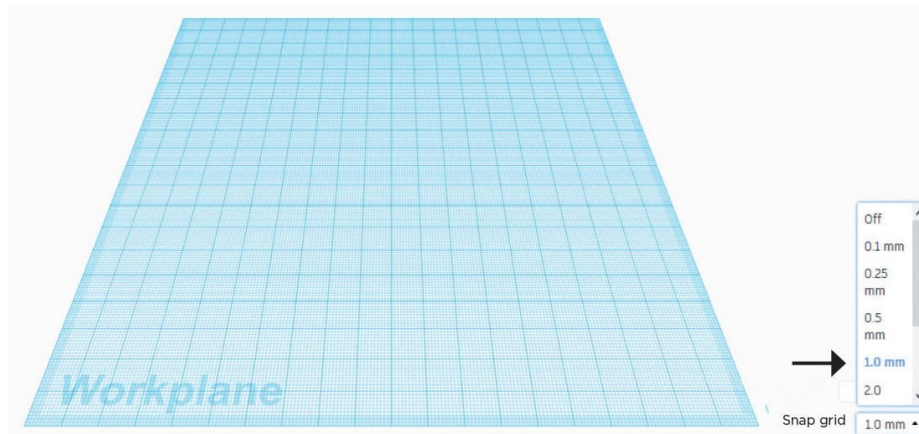

FIG. 4: The grid buttons control the workplane scale and dimension increments.
- The central part of the page holds the **Workplane**. This is the main staging area where designs are created and manipulated using tools from various other parts of the page. The workplane is marked with a grid to assist in accurately placing designs and shapes on it. The scale of the grid can be modified using the **Edit Grid** button on the bottom right of the workplane. The arrow in fig. 4 marks the **Snap Grid** menu, which allows for variation in the magnitude of incremental dimension changes.